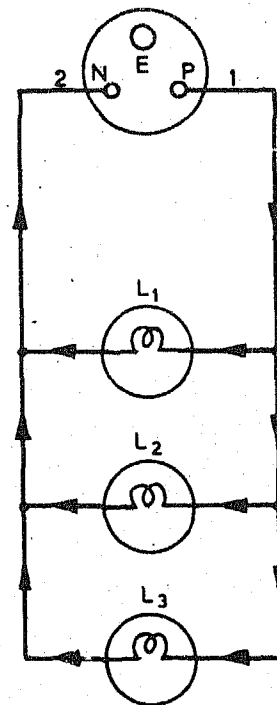

Fig.10.4
- (i) There are as many paths for the current flow as there are number of lamps (See Fig. 10.4).